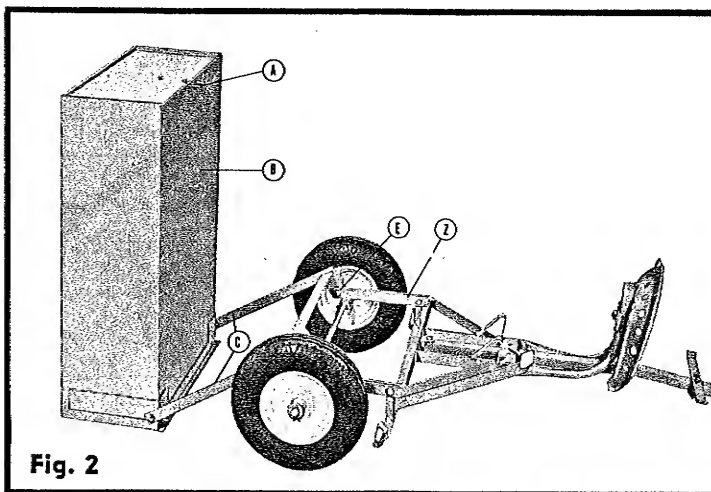

Fig. 2
Bolt box guide plate (A, Fig. 2) to trailer body (B, Fig. 2) as shown. Attach box pivot assembly (C, Fig. 2) to trailer body as shown using the two bushings and bolts
provided. Position trailer body as shown in Fig. 2 and assemble box pivot assembly (C, Fig. 2) to sulky frame (Z, Fig. 2) with two pivot pins and spring clips as shown at (E, Fig. 2).
If trailer body is used with the combination riding sulky, remove the two spring clips and pivot pins (E, Fig. 2).
- easy dumping. The trailer body chassis is constructed to permit it to be completely tipped over, facilitating cleaning the body — See Fig. 2.